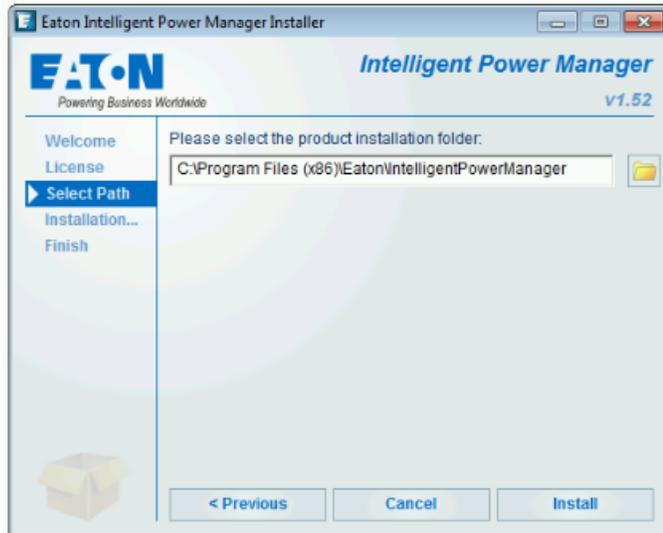

Figure 4. Select Path Screen
4. Browse your hard drive to select the product installation folder. Click **Install** (see Figure 4). After approximately two minutes, the Finish screen displays.